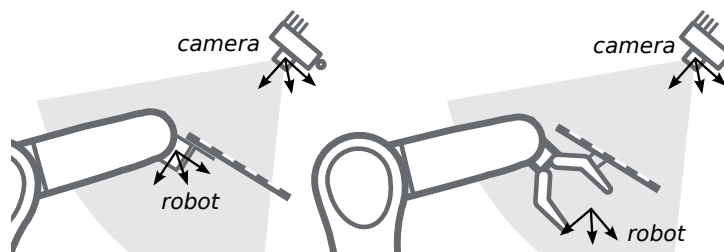

Fig. 6.22: Alternate mounting options for attaching the calibration grid to the robot
**Calibration with a statically-mounted camera** In use cases where the camera is positioned statically w.r.t. the robot, the calibration grid needs to be mounted to the robot as shown for example in Fig. 6.21 and Fig. 6.22.
**Note:** The hand-eye calibration module is completely agnostic about the exact mounting and positioning of the calibration grid w.r.t. the user-defined *robot* frame. That means, the relative positioning of the calibration grid to that frame neither needs to be known, nor it is relevant for the calibration routine, as shown in Fig. 6.22.